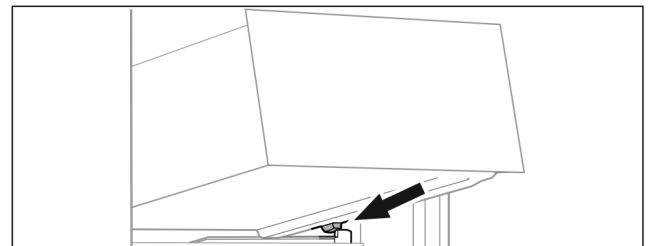

Fig. 74
- ▶ Place drawer at an angle behind the stoppers on the moulded rib. (see Fig. 74)